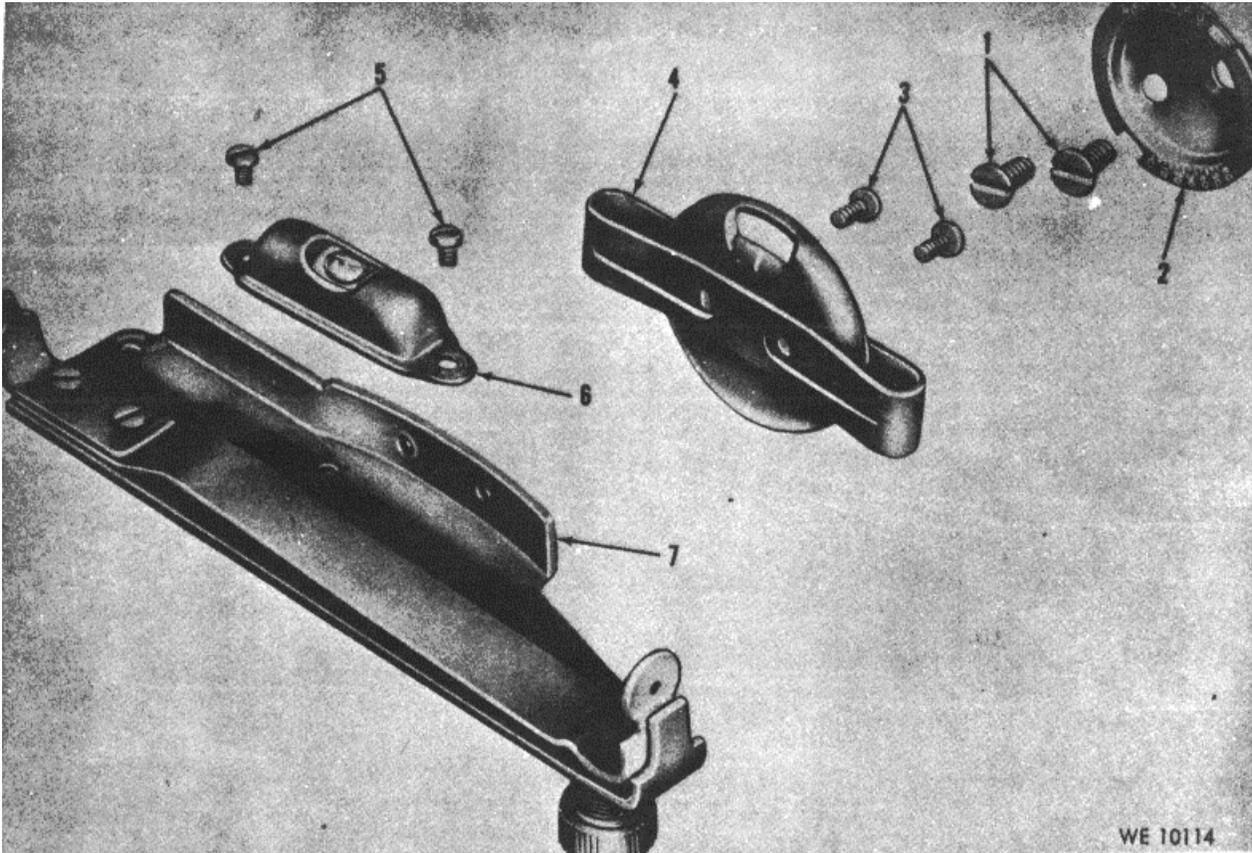
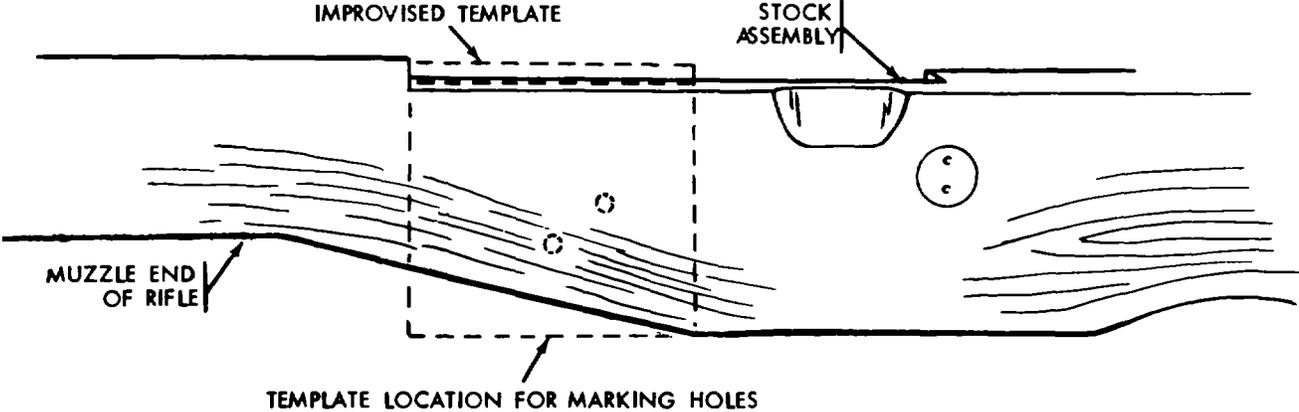

Figure 10-2. Grenade launcher sight-exploded view.
Figure 10-4. Showing location of hole drilled in stock assembly.
b. To prepare a stock for installation of the grenade sight mounting plate (fig 10-2), drill two holes (fig 10-3) on the left side of the stock. Use improvised template (fig 10-4) for marking the exactness of holes. Drill the holes with drill No. 29 (0.1360) inch.
Refer to figure 10-2.